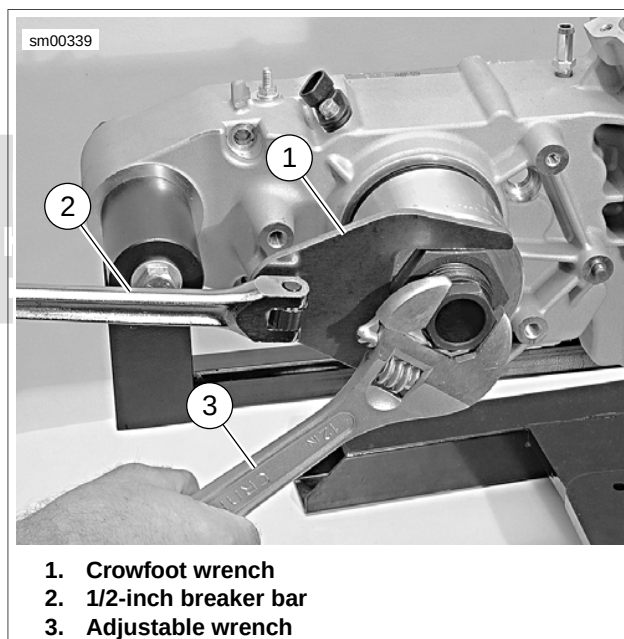

Figure 6-82. Press Seal Into Crankcase
7. See Figure 6-82. Place CROWFOOT WRENCH (Part No. HD-47856-7) (1) with 1/2 inch drive breaker bar (2) on large nut. Place an adjustable wrench (3) on flats of hex head cast into end of adapter.